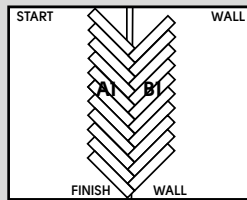

Fig. 6
7. Continue installing planks without cutting them, working in opposite directions. Verify that the installed planks are straight on the lines. (Fig 6). carefully tap the plank/tile together flat on the floor (Fig. 6).